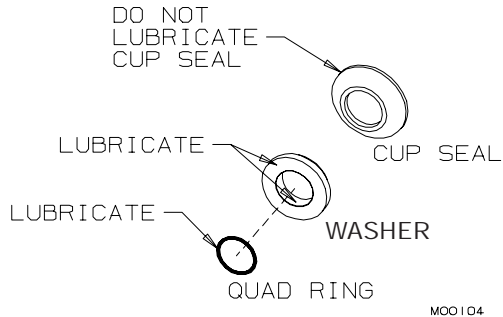

Figure 7-1 Shaft Seal assembly
1. Assemble the cup seal on the bushing to complete the beater shaft seal (see figure 7-1). Apply a moderate amount of approved sanitary lubricant, such as Petrol-Gel, to the internal surface and the face of the plastic washer opposite the bell shaped portion of the seal.